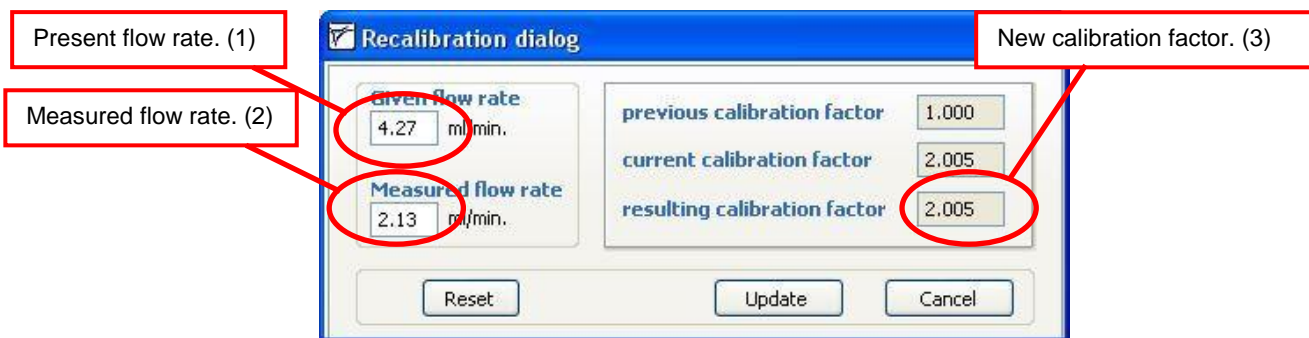

Figure 23 Recalibration Dialog
- Now you can use this value to update the PumpControl software in the 'Recalibration factor...' menu. To do so, click on the 'Recalibration factor...' button and insert the preset flow rate (control 1 in Figure 23) and also the measured one (control 2). You will end up with a new calibration factor (indicator 3, in Figure 23), which will correct the flow rate, the shear stress, and the shear rate.